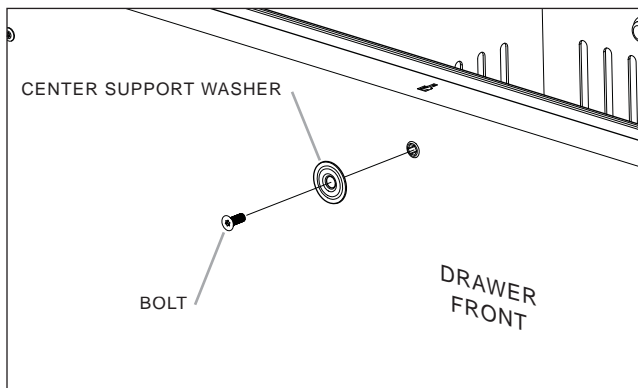

Figure 1.
- 1 Install special center support washer (provided) to the front of the drawer by inserting the #10-24 x 1/2" 6 lobe flat head bolt (provided) through the special center support washer and into the rivnut that is installed in the center of all 36" (914mm) drawer shells (See Figure 1).